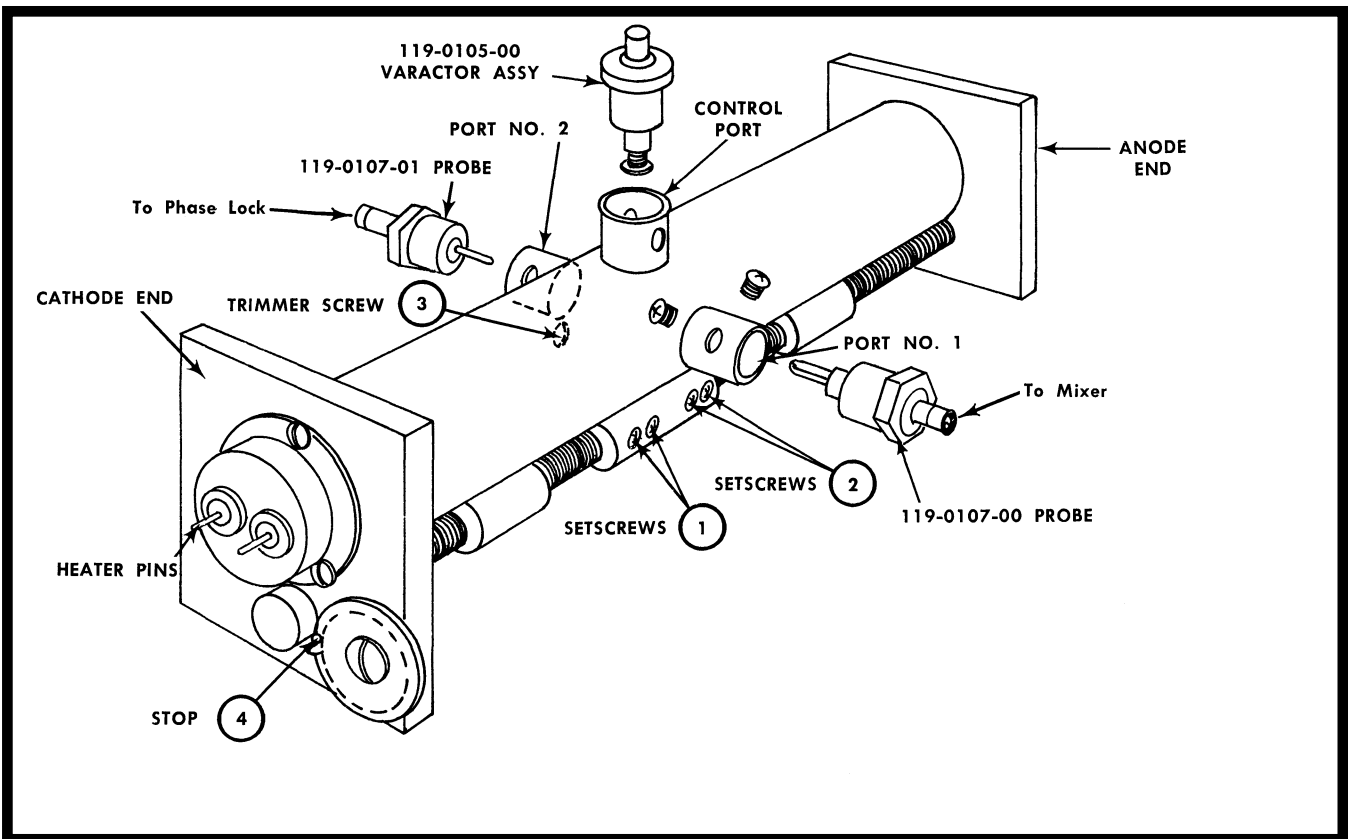

Fig. 6-49. Band C Assembly Alignment Diagram.
Refer to Fig. 6-49 for the location of the sub-assemblies and parts. The oscillator assembly must be removed for
This procedure should be used only after replacing the oscillator tube. Refer to Fig. 6-49 for the location of sub-assemblies and parts. The oscillator assembly must be removed for calibration.
a. Install probe assembly (Part No. 119-0107-01 into the No. 2 port Fig 6-49). Position the probe assembly approximately $\frac{1}{16}$ inch out from full penetration with the notch or keyway (DC return of the probe) towards the plate end of the oscillator assembly, and secure by tightening one of the two set screws.
b. Install probe assembly (Part No. 119-0107-00) into the No. 1 port (Fig. 6-49). Position the probe assembly approximately $\frac{1}{16}$ inch out from full penetration with the notch or keyway towards the plate end of the oscillator assembly, and secure by tightening one of the two set screws.
i. Loosen the set screws (1) in Fig. 6-49, and position the plate choke for a frequency of 4.2 GHz.
j. Loosen the set screws (2) in Fig. 6-49, and position the cathode choke for maximum power output. Decrease probe coupling if power output exceeds 100 mW.
b. Tune the dial to indicate 1.5 GHz. Adjust the trimmer screw (3) in Fig. 6-49, for an oscillator frequency of 1.7 GHz.
c. Install pinion gear so bent tooth of the spur gear makes contact with the set screw (4) Fig. 6-49, then tighten the set screw in the pinion gear.